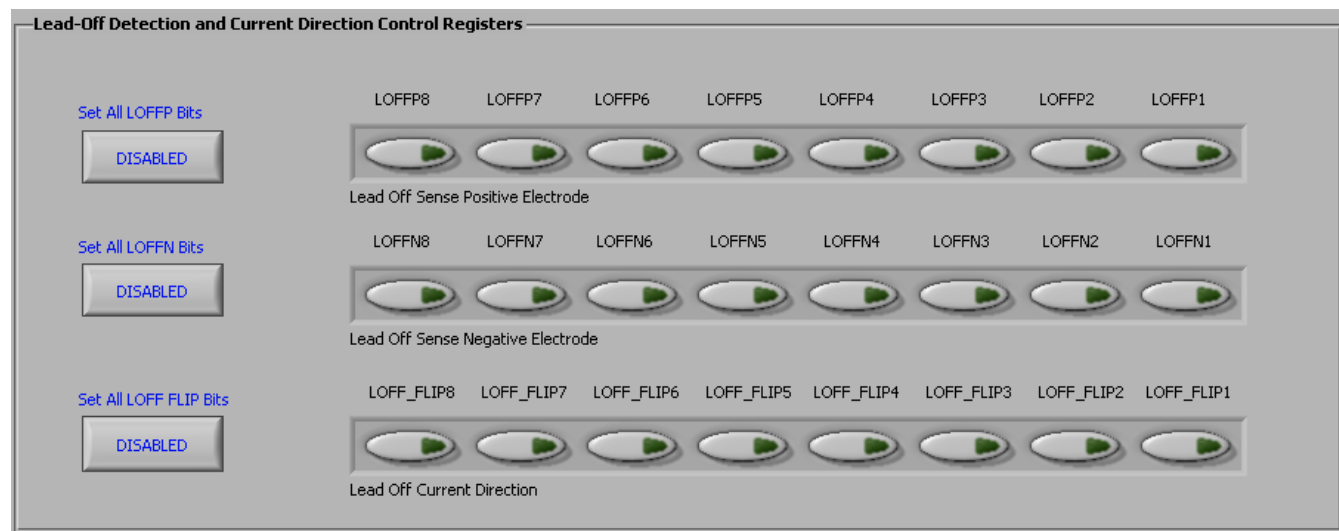

Figure 41. Setting the LOFF Register Bits
- Step 2. Choose the lead-off scheme by setting the respective bits in the LOFF register (in the LOFF control tab). Select the *DC Lead-Off Detect*, 6.25 nA, *Current Source* scheme, and set the comparator threshold to 95%. Select the appropriate inputs for lead-off detection by clicking the bits of the LOFF_SENSP and LOFF_SENSN Registers. The LOFF tab should appear as shown in Figure 41.